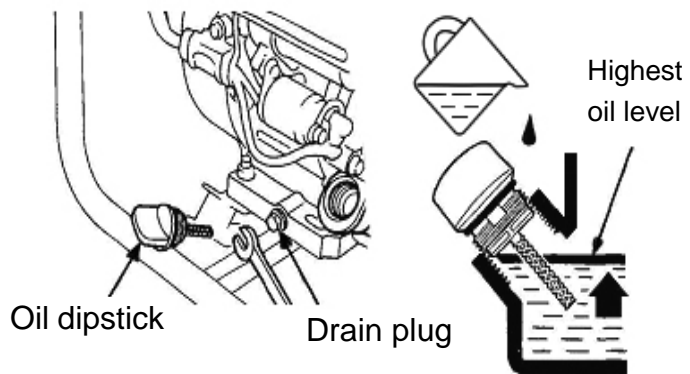

Figure 5
(1) Remove the oil dipstick and screw off the drain plug to drain the engine oil (see Figure 5).
(2) Rinstall the oil drain plug and tighten it.
(3) Refill with the recommended engine oil and check oil level.